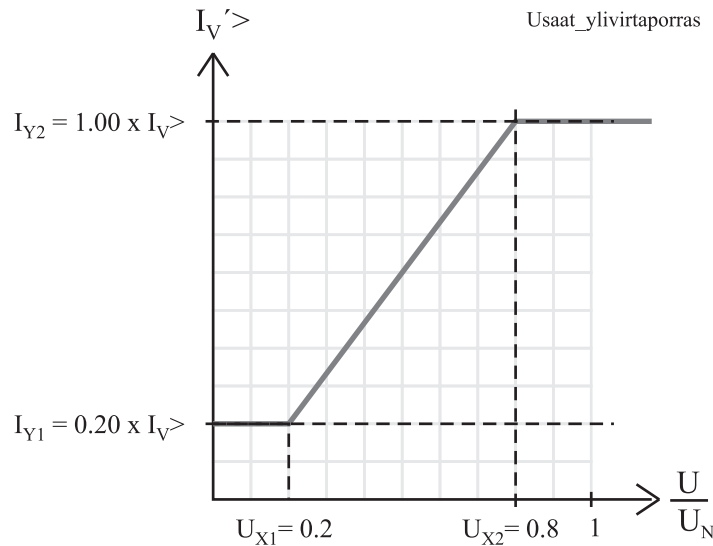

Figure 5.13: Characteristics of a voltage restrained overcurrent function $I_{V>}$.
jeopardizing the operation of the high set short circuit protection. The operation characteristic of a voltage restrained overcurrent function is shown in Figure 5.13. The under impedance protection (see Chapter 5.18 Underimpedance $Z<$ (21)) can be used for the same purpose.
When generator pole voltage falls below the set voltage level the pick-up current level of the overcurrent stage $I_{V>}$ also starts falling linearly controlled by the voltage according to the characteristic curve. See Figure 5.13.